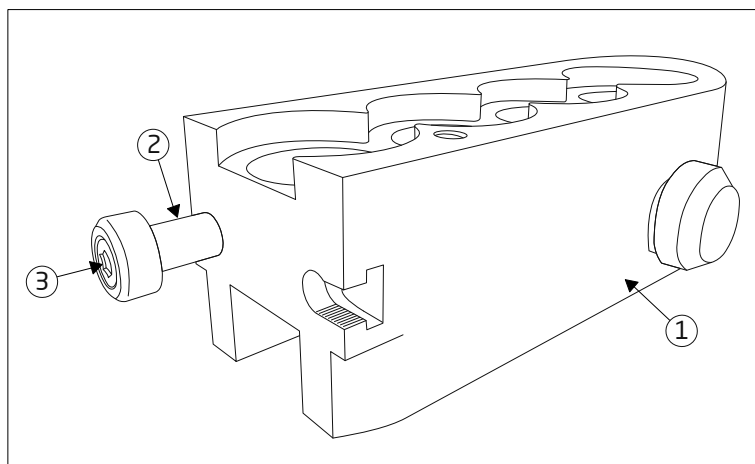

Figure 13
To assemble and disassemble the main valve remote actuator, refer to Figure 12 and Figure 13 and proceed as follows:
- Using an Allen key, assemble the docking pin (item 2) as it is shown in Figure 13.
Note that if your burner is not prepared for the installation of the main valve remote actuator kit you will need to update the external valve body and the double action valve cam (CR-PPS-0076) to the last version following sections 5.18 and 5.17 respectively. Burners prepared for the use of the main valve actuator kit will have the external valve body with a slot machined on it as it is shown in Figure 13.